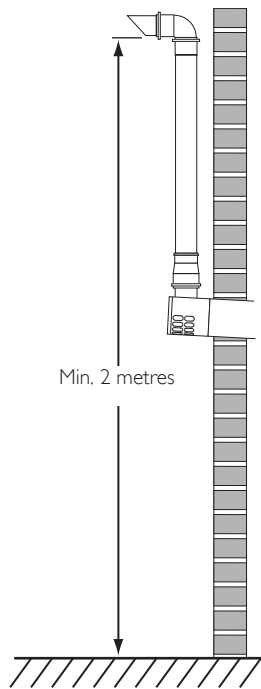

Fig. 21g
- When completed the terminal must be at least 2 metres above ground level (Fig. 21g).